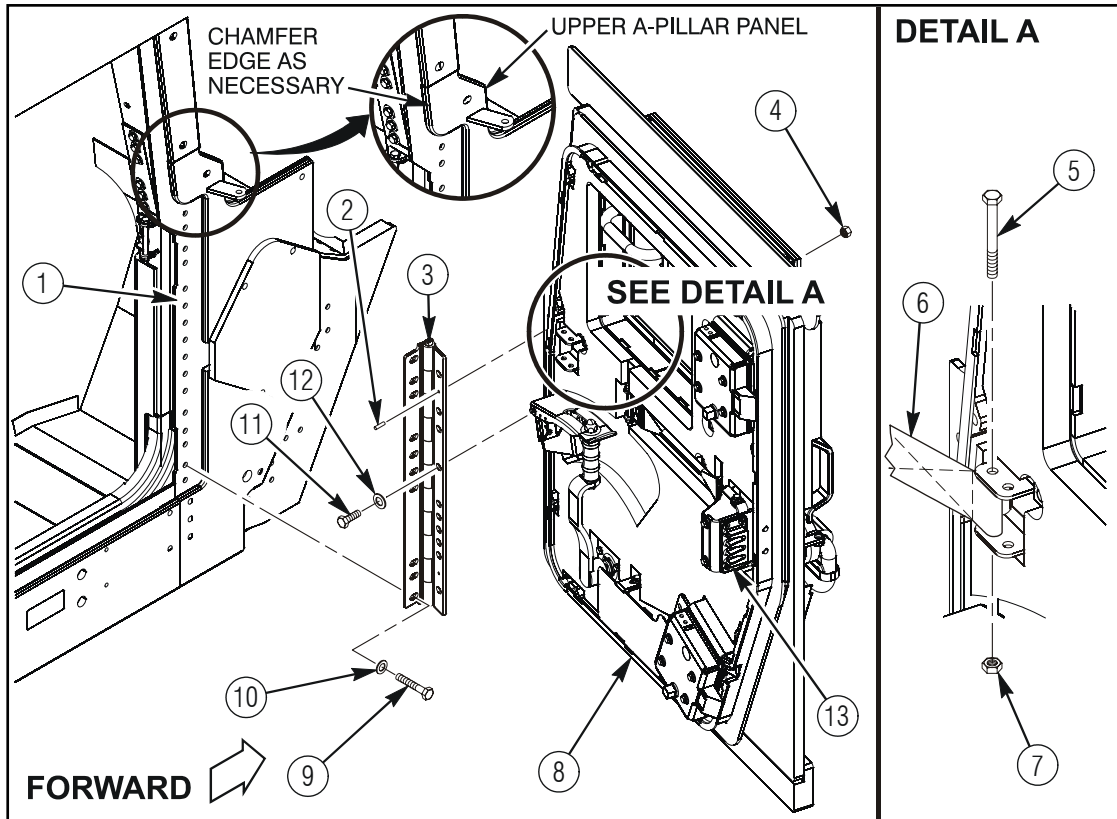

Figure 38a
1. Lift 6435211-01M1 or 6435211-200M1 right front door assembly (8) using an appropriate hoist and M00626BAS001 hanger bracket door fixture. Refer to figure 38a.
2. Apply 8030-01-025-1692 sealing compound to threads of ten 4397000-073 capscrews (9). Refer to figure 38a.
3. Install 6435234-01M1 right side door hinge (3) on vehicle A-pillar (1) with ten 4397000-073 capscrews (9) and 4397005-015 washers (10) as shown in figure 38a. Position capscrews (9) in center of slotted holes in hinge (3), and tighten top and bottom capscrews (9), then snug up remaining eight capscrews (9).